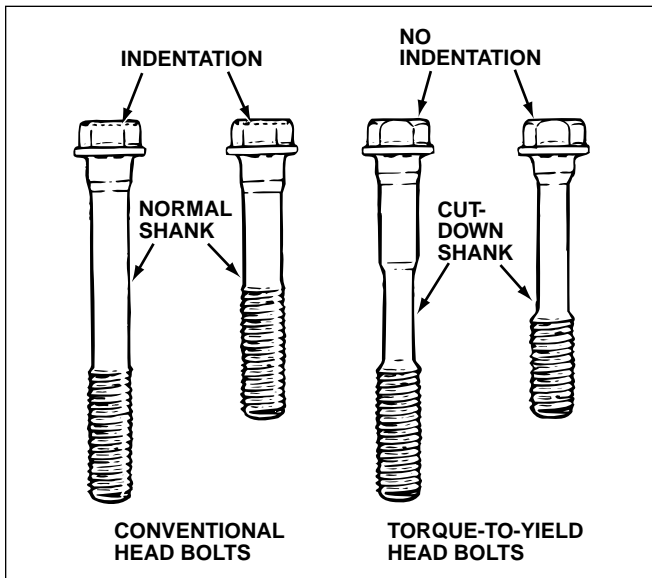

Fig. 2-3. Torque-to-yield bolts have distinguishing characteristics for easy identification.
**Torque-to-yield** bolts, also known as stretch bolts, may be used to attach the cylinder head. Most torque-to-yield bolts are not reusable and must be replaced whenever they are removed. Torque-to-yield bolts generally have a reduced diameter shank, unusual head configuration, or other distinctive characteristics to make them recognizable, figure 2-3.